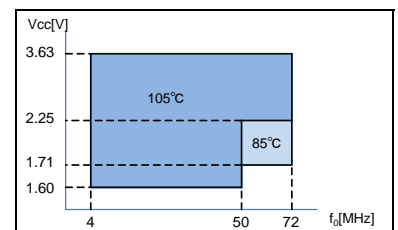

Figure 1 : The upper limit of Operating temperature and the related conditions
| Supply voltage | V_{CC} | 1.60 V to 3.63 V 1.71 V to 3.63 V 2.25 V to 3.63 V | 4 MHz $\leq f_o \leq$ 50 MHz, $T_{use} = +105$ °C Max. fo = 72 MHz, $T_{use} = +85$ °C Max. fo = 72 MHz, $T_{use} = +105$ °C Max. Refer to Figure 1 | | | | | | | | | | | | | | | | | | | | | | | | |
| ④Supply voltage *See Figure 1 | | ⑤Frequency tolerance / ⑥Operating temperature range | |
| ③Supply voltage *See Figure 1 | | ⑤Frequency tolerance | |